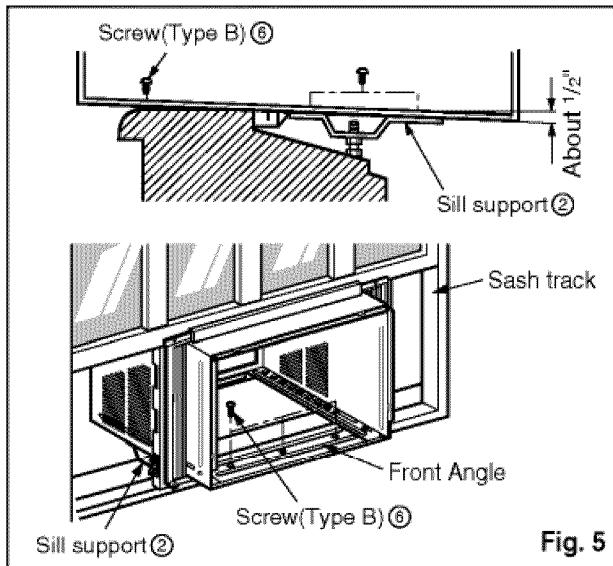

Fig. 5
6. The cabinet should be installed with a very **slight tilt(about  $\frac{1}{2}$ " ) downward** toward the outside (See Fig. 5). Adjust the bolt and the nut of sill support for balancing the cabinet.
7. Attach the cabinet to the window stool by driving the screws ⑥ (Type B: Length sixteen millimeters and below.) through the front angle into window stool.